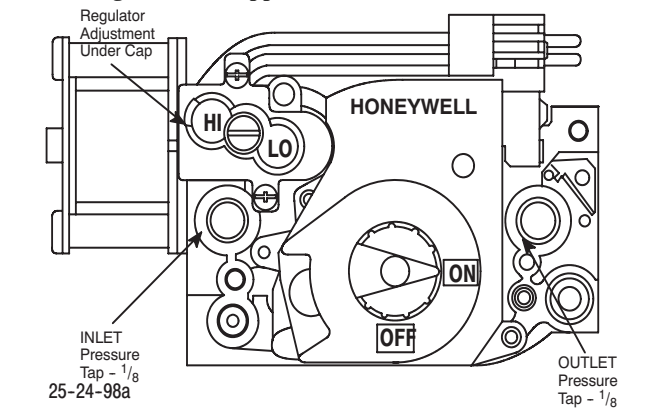

Fig. 5 - Honeywell Gas Valve VR8205Q
1. Remove the two screws securing the Hi/Lo regulator cover to the valve. (See Fig. 5 & Fig. 6)
- Verify the igniter is in the correct location. (See **Figure 5**)
1. Remove the plug from the Inlet Pressure Tap on gas valve and install a manometer. (Fig. 5)
1. Connect U-Tube manometer to the tapped opening on the outlet side of gas valve on the manifold pipe. (See Fig. 5) Use a manometer with a 0 to 12" minimum water column range.